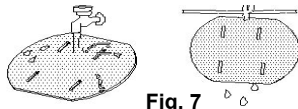

Fig. 7
5. Rinse the pre-motor filter in lukewarm water and let the pre-motor filter air dry for 24 hours until it is completely dry. (Fig. 7)